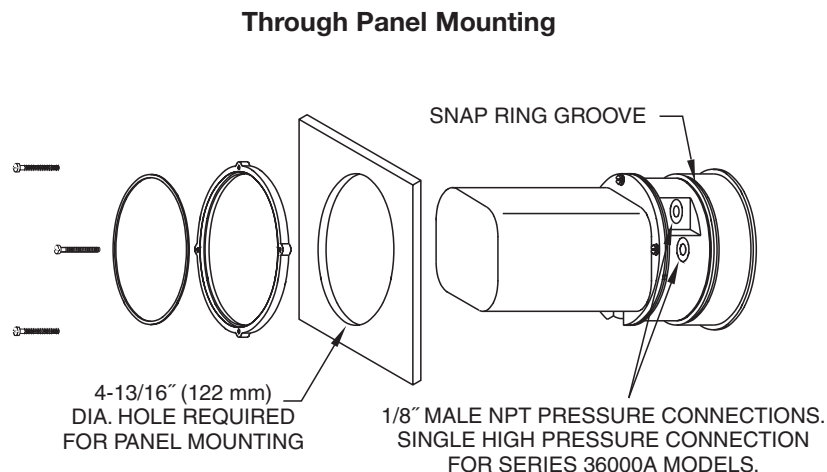
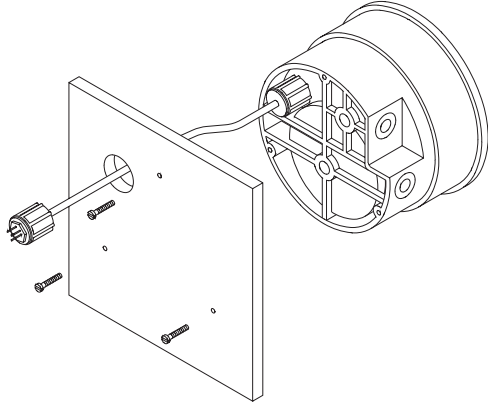
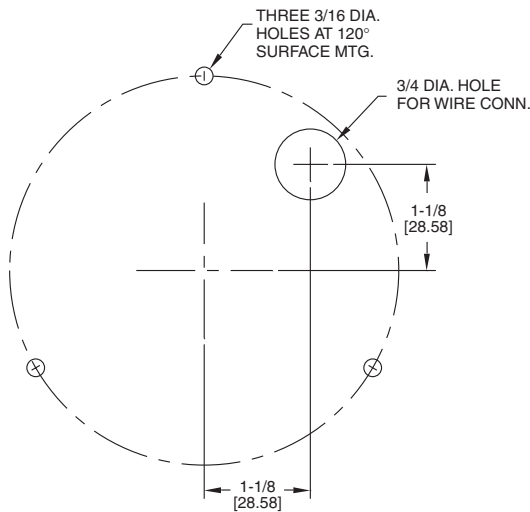

Fig. 2
Fig. 3A
Fig. 3B
Normal mounting is flush or through panel is shown in Fig. 2. Be sure to allow 4-3/8" extra space behind the unit for electrical enclosure removal. Make a single 4-13/16" diameter hole in the panel. Insert the entire Photohelic® unit from the front, then slip on the mounting ring and snap ring from the rear. Seat the snap ring in its groove, back up the mounting ring against snap ring and tighten the four (4) 2" No. 6-32 clamp screws provided. If behind panel space is critical, the amplifier-relay unit can be mounted remotely. See the Remote-Relay Mounting Instructions for details.
Where it is desirable to mount the amplifier-relay unit separate from the gage-phototransistor unit, the gage may be mounted either as shown in Fig. 2 (except less amplifier-relay portion) or surface mounted as shown in Fig. 3A. Use the layout shown in Fig. 3B to locate holes. The complete package cannot be surface mounted.